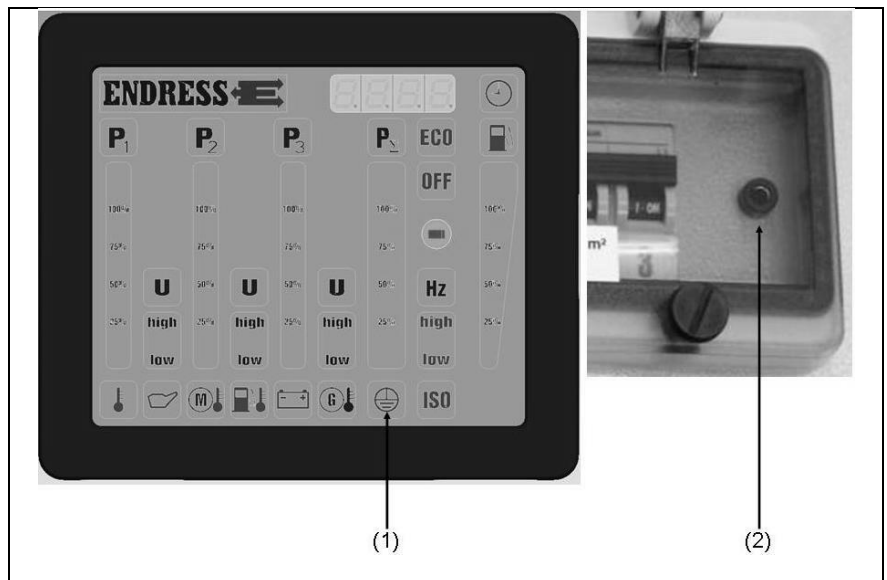

Figure 4-4: Check the protective conductor
1. Insert test cable into socket (Figure 4-4-(2)).
- ✓ The test lamp (Figure 4-4-(1)) on the multifunction display shows the result: